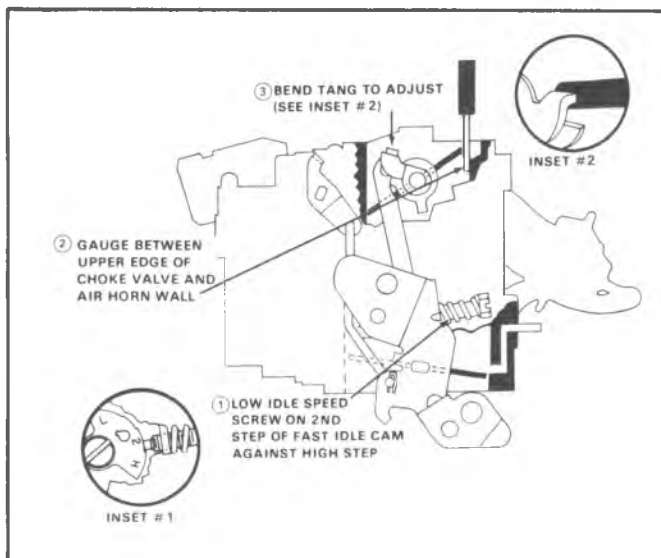

Fig. 28—Fast Idle Cam Adjustment
**FAST IDLE CAM ADJUSTMENT (Fig. 28)**